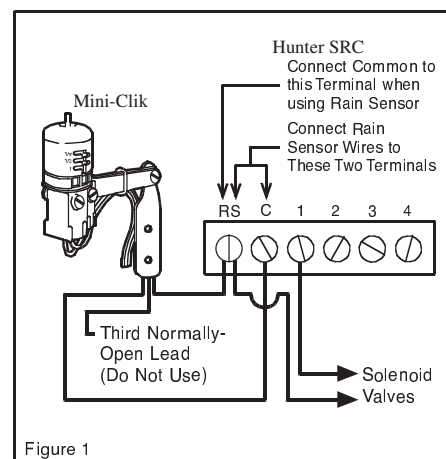

Figure 1
- Connect one wire to the RS terminal and other to the C terminal (See Figure 1).